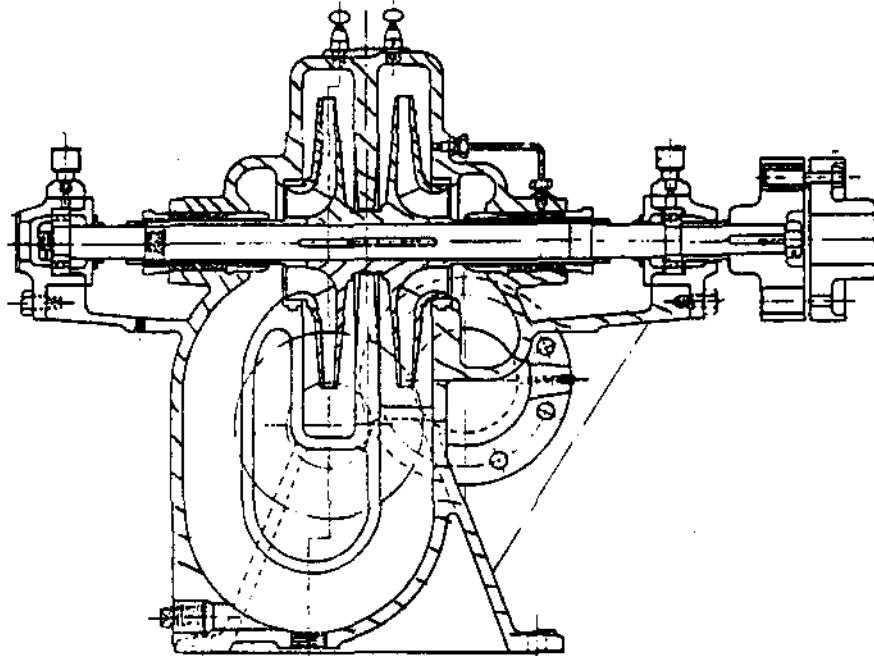

Figure 1
In a system shown in Figure 1, the pressure at the surface of the liquid in an open tank will be the atmospheric pressure. As the liquid enters the suction piping it loses its pressure due to the friction losses and due to the lift. So the pressure progressively decreases and is the minimum as the liquid enters the impeller where the process of pressure buildup starts. The boiling point of any liquid depends on pressure and generally speaking it decreases with the decreasing pressure. If, during the passage through the suction piping, the pressure of liquid drops so much that it is equal or lower than boiling (= saturation) pressure corresponding to the temperature of the liquid, boiling will start. Small bubbles of steam, or generally vapour, will enter the impeller where the pressure is building up and again becomes higher than the saturation pressure of the liquid at the particular temperature. Vapour in the bubbles exposed to this higher pressure will condense leaving voids behind because the specific volume of liquid to vapour can be as high as 1 : 30,000. Surrounding liquid will immediately rush to fill these voids. This results in high speeds and resulting impacts. If a bubble and later a void happened to be at the metal surface of the impeller or casing, the intruding liquid will hammer the surface. Millions of these impacts result in pitting and damage to pump parts. The whole process, starting with pressure drop and bubble formation up to the implosion and impact is called 'cavitation'.
9. Classify the pump shown in Figure 1 according to the six basic features.